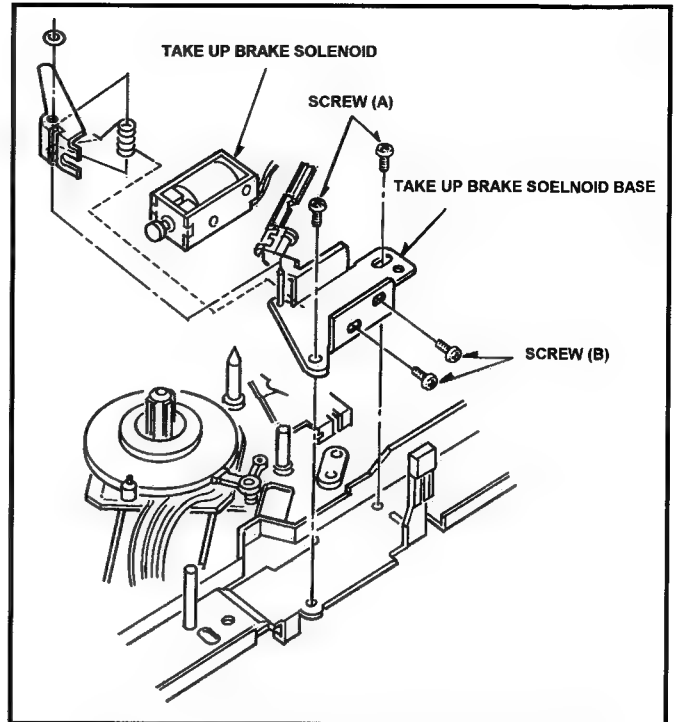

Fig.6-6-1 Removal of Take Up Brake Solnoid
5. Unscrew the 2 screws (A) and remove the Take Up Brake Solenoid Base Unit as shown in Figure 6-6-1.
6. Unscrew the 2 screws (B) and remove the Take Up Brake Solenoid from Take Up Brake Solenoid Base Unit as shown in Figure 6-6-1.
Note: Hang on the Take up Brake Spring as shown in Figure 6-6-1.
- Note:** Hang on the Supply Brake Spring as shown in Figure 6-6-1.